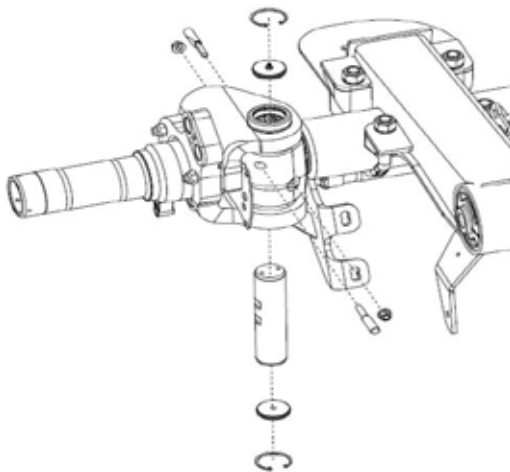

Figure 27 A: Dual draw key king pin orientation
5. **Orient** kingpin based on configurations shown in Figure 27 or 27A so the draw key notch is facing the draw key passage.